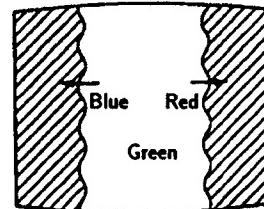

Fig. 3
- Move the deflection yoke backward, and adjust with the purity control so that green is in the center and red and blue are at the sides evenly. (Fig.3)